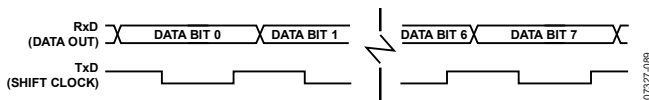

Figure 89. 8-Bit Shift Register Mode
Reception is initiated when the receive enable bit (REN) is 1 and the receive interrupt bit (RI) is 0. When RI is cleared, the data is clocked into the RxD line, and the clock pulses are output from the TxD line, as shown in Figure 89.